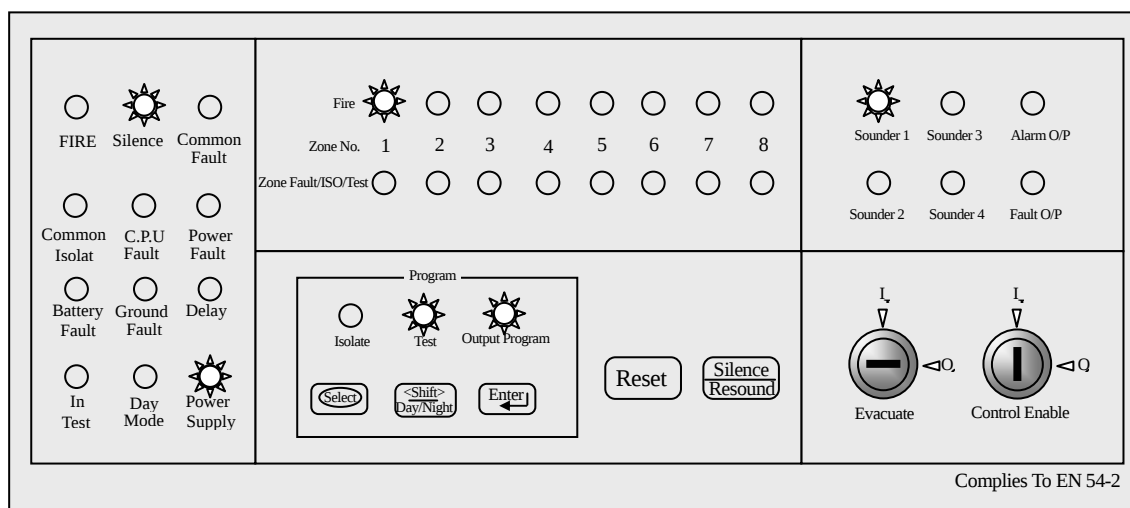
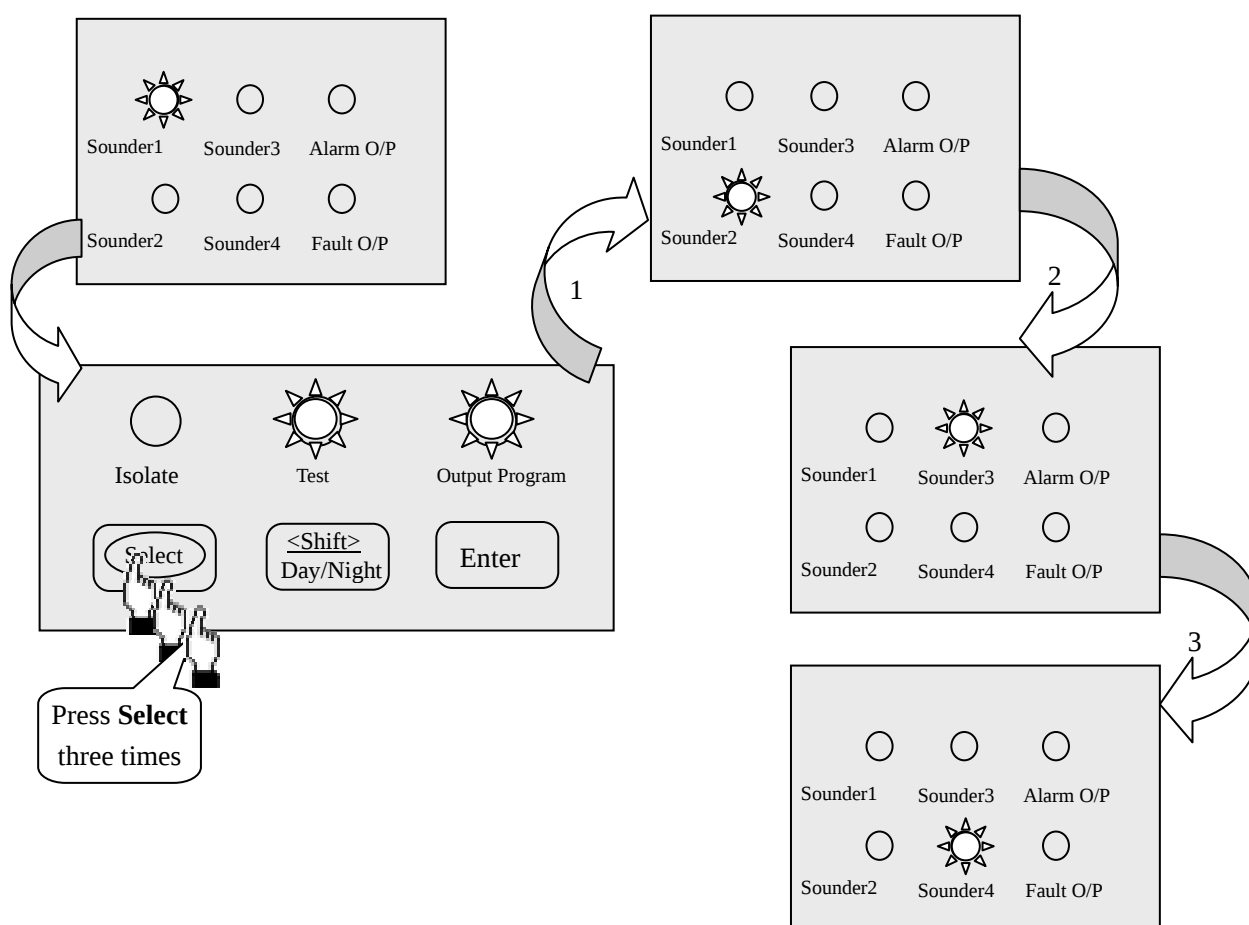
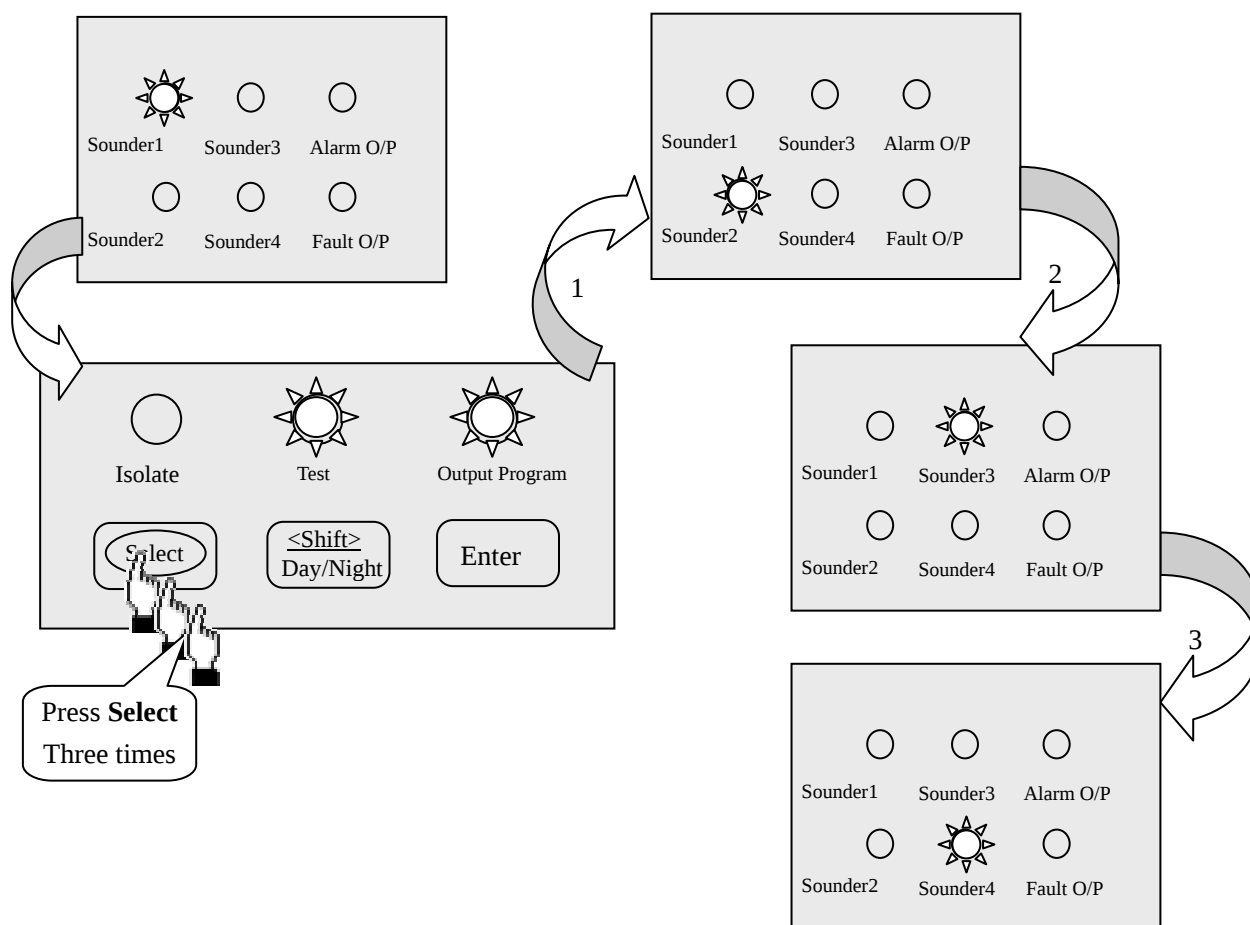

Fig.4.2.5c
Fig.4.2.5d
Fig.4.2.5e
- 4.2.5.1 In the output programming state, the **Isolate** and **Test** indicators flash alternately. Press the **Shift** pushbutton at this time to select the state shown in Fig.4.3.5b and press the **Enter** pushbutton to confirm, the system will enter in the sounder output configuring state. See Fig.4.2.5c.
- 4.2.5.2 As shown in Fig.4.2.5c, the **Fire** indicator of zone 1 and **Sounder 1** indicator are illuminated, the Silence indicator and internal buzzer denote the former sound mode. If you don't want to change the sound mode, press the **Select** pushbutton (see Fig.4.2.5d) to select next sounder directly or press the **Enter** pushbutton (see Fig.4.2.5e) to enter in next zone configuring with the **Fire** indicator of next zone lighting. Pressing the **Reset** pushbutton in any position will exit configuring.